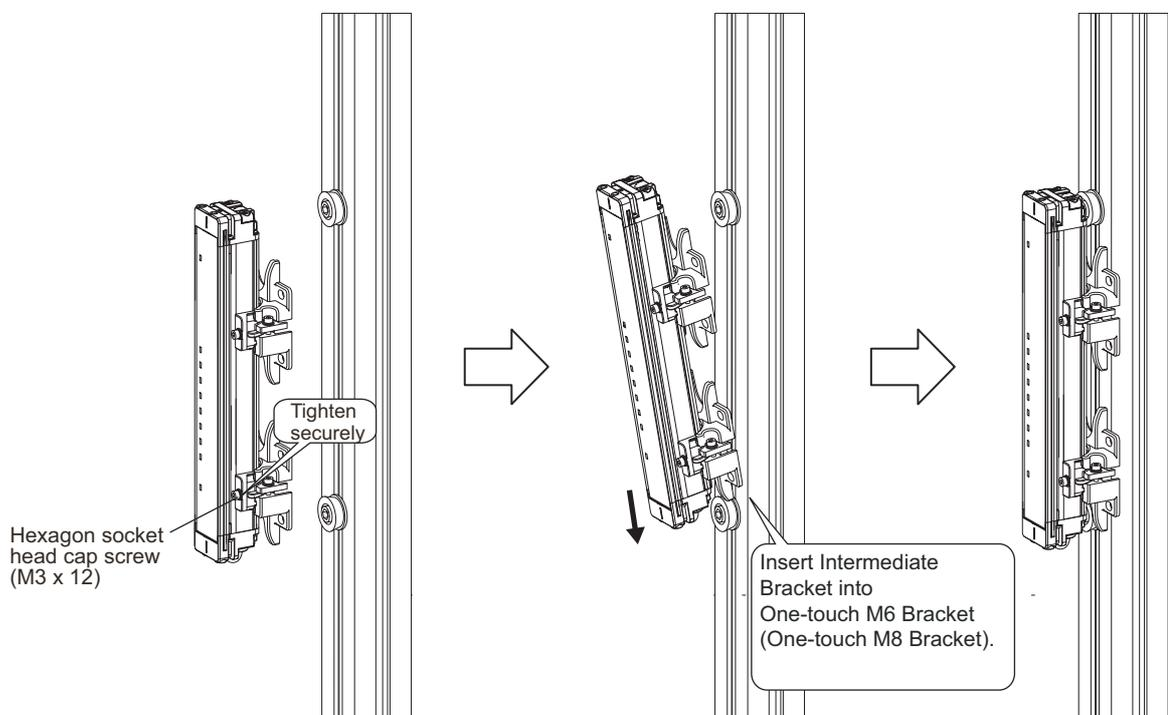

Figure 28
Tighten the hexagon socket head cap screws (M3 x 12) of Intermediate Bracket (1) to secure the sensor. (Figure 28)
Insert the Intermediate Bracket, which has been mounted at the bottom of the sensor, into the One-touch M6 Bracket (or One-touch M8 Bracket) mounted to the aluminum profile. (Figure 28)